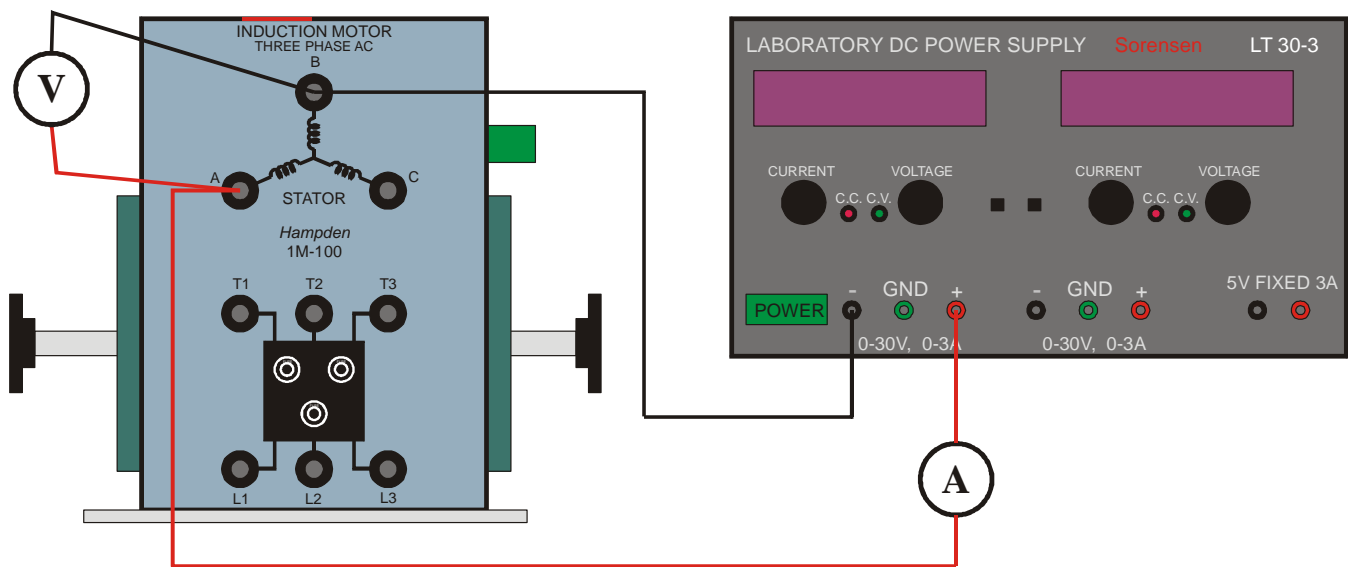

Figure 3 Set-up for DC Test (Experiment 3).
- 2) Next, connect a DC power supply across terminals *A* and *B* as shown in Figure 3 (wires and pieces of equipment not in use omitted for clarity, but left in place). The DC power supply requirements are that it be able to output at least 35 V and 3 A of current.